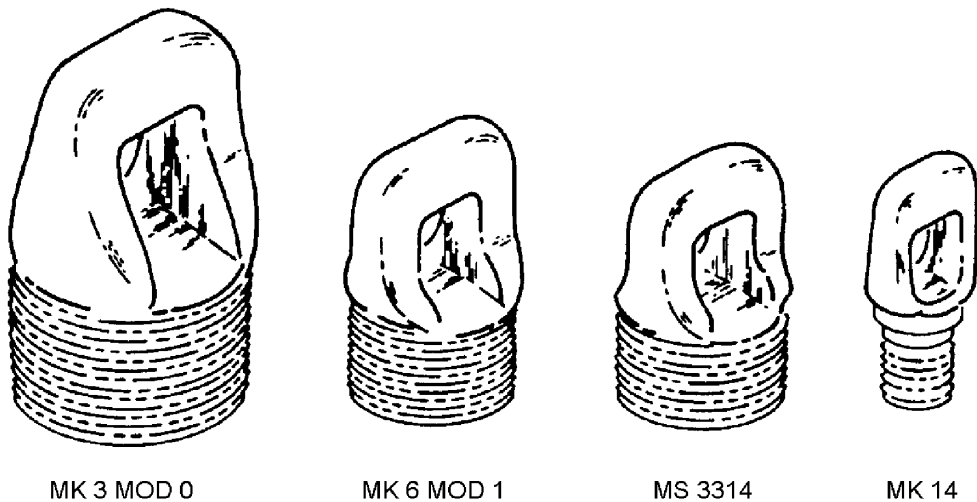

Figure 1-16.—Suspension lug installation.
spaced 14 or 30 inches apart, depending upon the size of the bomb. Suspension lugs (fig. 1-16) are used to attach the weapon to the aircraft bomb racks. An internally threaded well for the installation of a hoisting lug is located between the suspension lugs, at the center-of-gravity (CG) position on the bomb. The hoisting lug is used for handling purposes only.